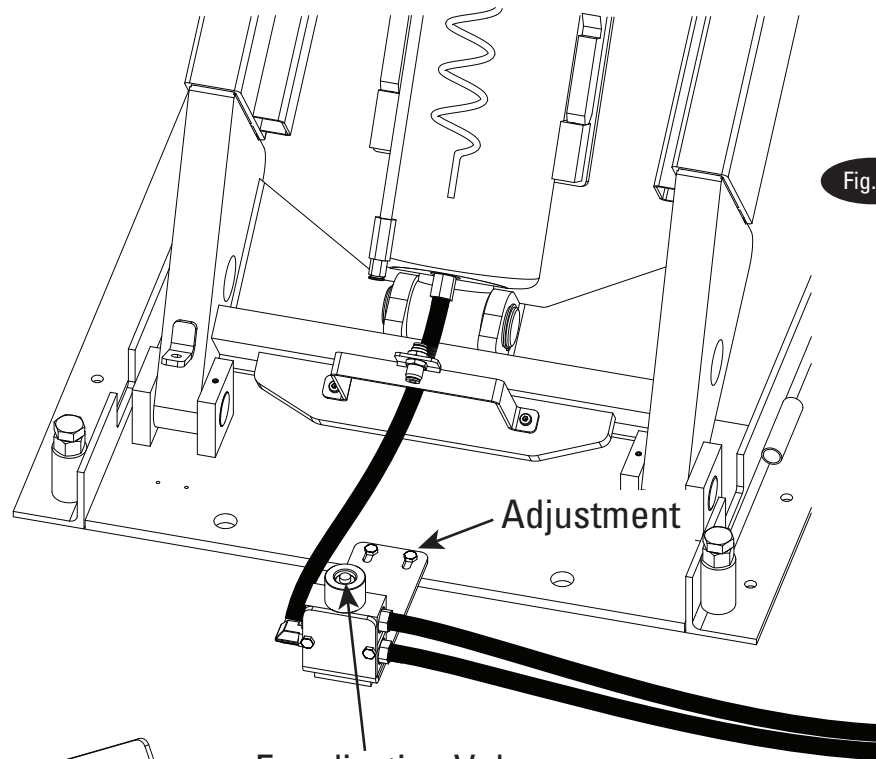

Fig. 26
1. Lower the lift to the floor and visually check that the pusher is depressing the valve pin but is not propping up the runway, Fig. 26 and 27. If adjustment is needed use the following steps.
3. Thread the pusher down so that the valve pin is depressed and the pusher is just barely contacting the collar around the pin, Fig. 26. The pusher should not be pushing the runway up.